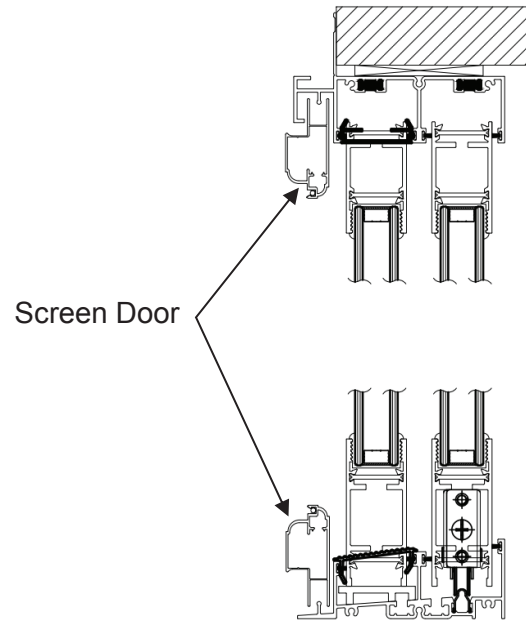

FIGURE 19
22. Install screen door by snapping into head and sill screen channels as shown in figure 19.